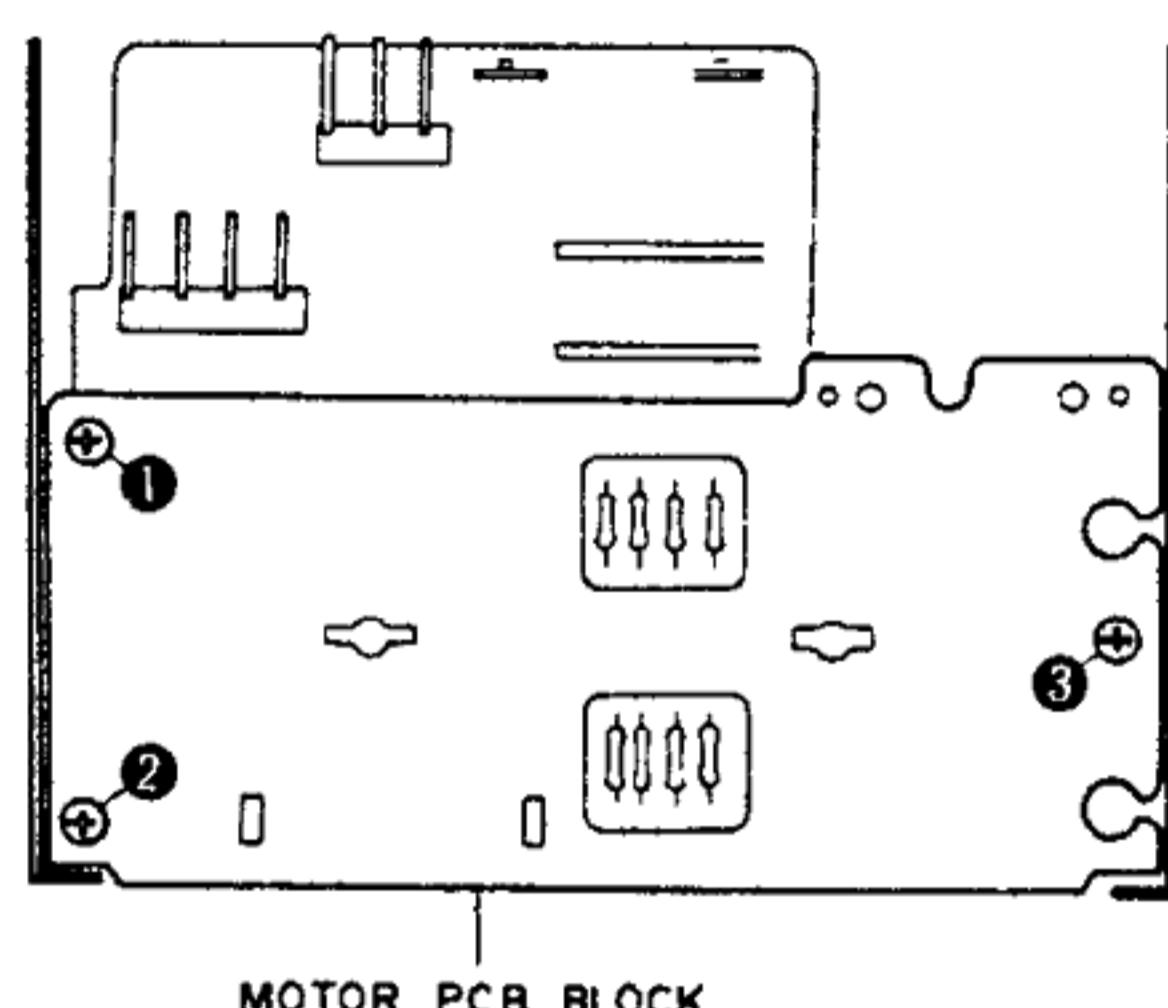

Fig. 3-10
- 2) Remove motor PCB block securing screws ①, ② and ③ and take out the motor PCB block. (Refer to Fig. 3-10.)